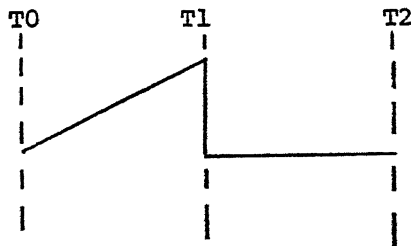

FIGURE 8
49. Refer to figure 8. From T0 to T1 of the output C4 is _____ and at T1 C4 is _____.